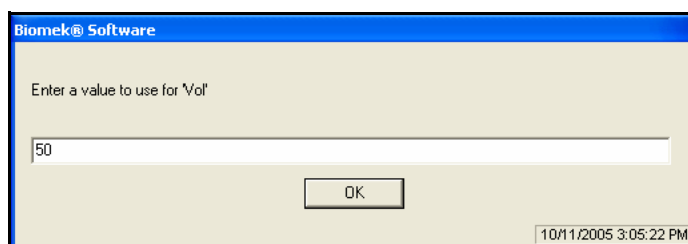

Figure 3-7. Prompt to specify the value of a variable
3. Run the method. A prompt appears allowing you enter a value for the variable (Figure 3-7).